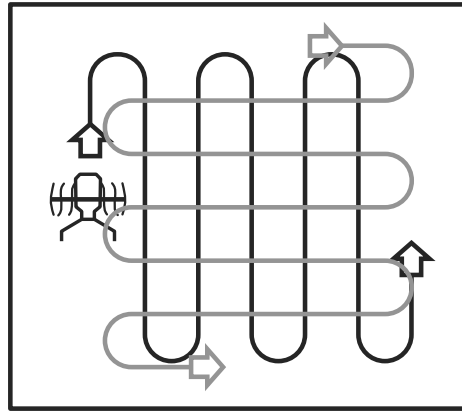

Fig. 12
6. Till in slight overlapping rows. The most effective pattern for tilling soils is moving the product up and down in vertical lines, then move the product in horizontal lines from left to right (Fig. 12) This will keep the rows even and ensures that all the ground is tilled without missing any spots.